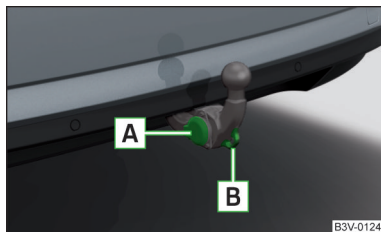

Fig. 311
- › Open the socket cap and insert the plug of the trailer (accessories) into the 13-pin socket **A** » Fig. 311. (If the trailer / accessories have a 7-pin connector, use a corresponding adapter from the ŠKODA Original Accessories).